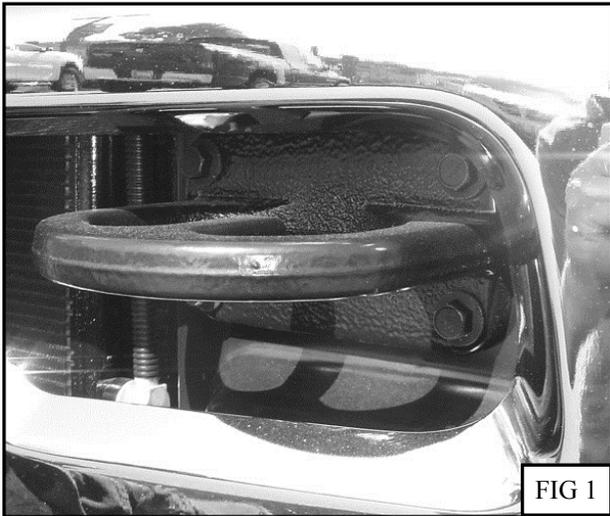

FIG 1
2. Starting on the driver side, remove the (4) factory hex bolts and nuts, (Figure 1 & 2), securing the tow hook to the frame. It may be necessary to use a long extension to reach between the frame and the radiator to remove the inner factory hex nuts, (Figure 2). Place the hardware and tow hook aside. Insert the driver side Frame Mounting bracket through the opening in the bumper and up to the mounting surface, (Figure 3 & 4). Use the supplied longer (4)M10 hex head bolts (Item 7), (8) M10 flat washers (Item 8), (4) M10 lock washers (Item 9), and (4) M10 hex nuts (Item 10). Do not fully tighten at this time.